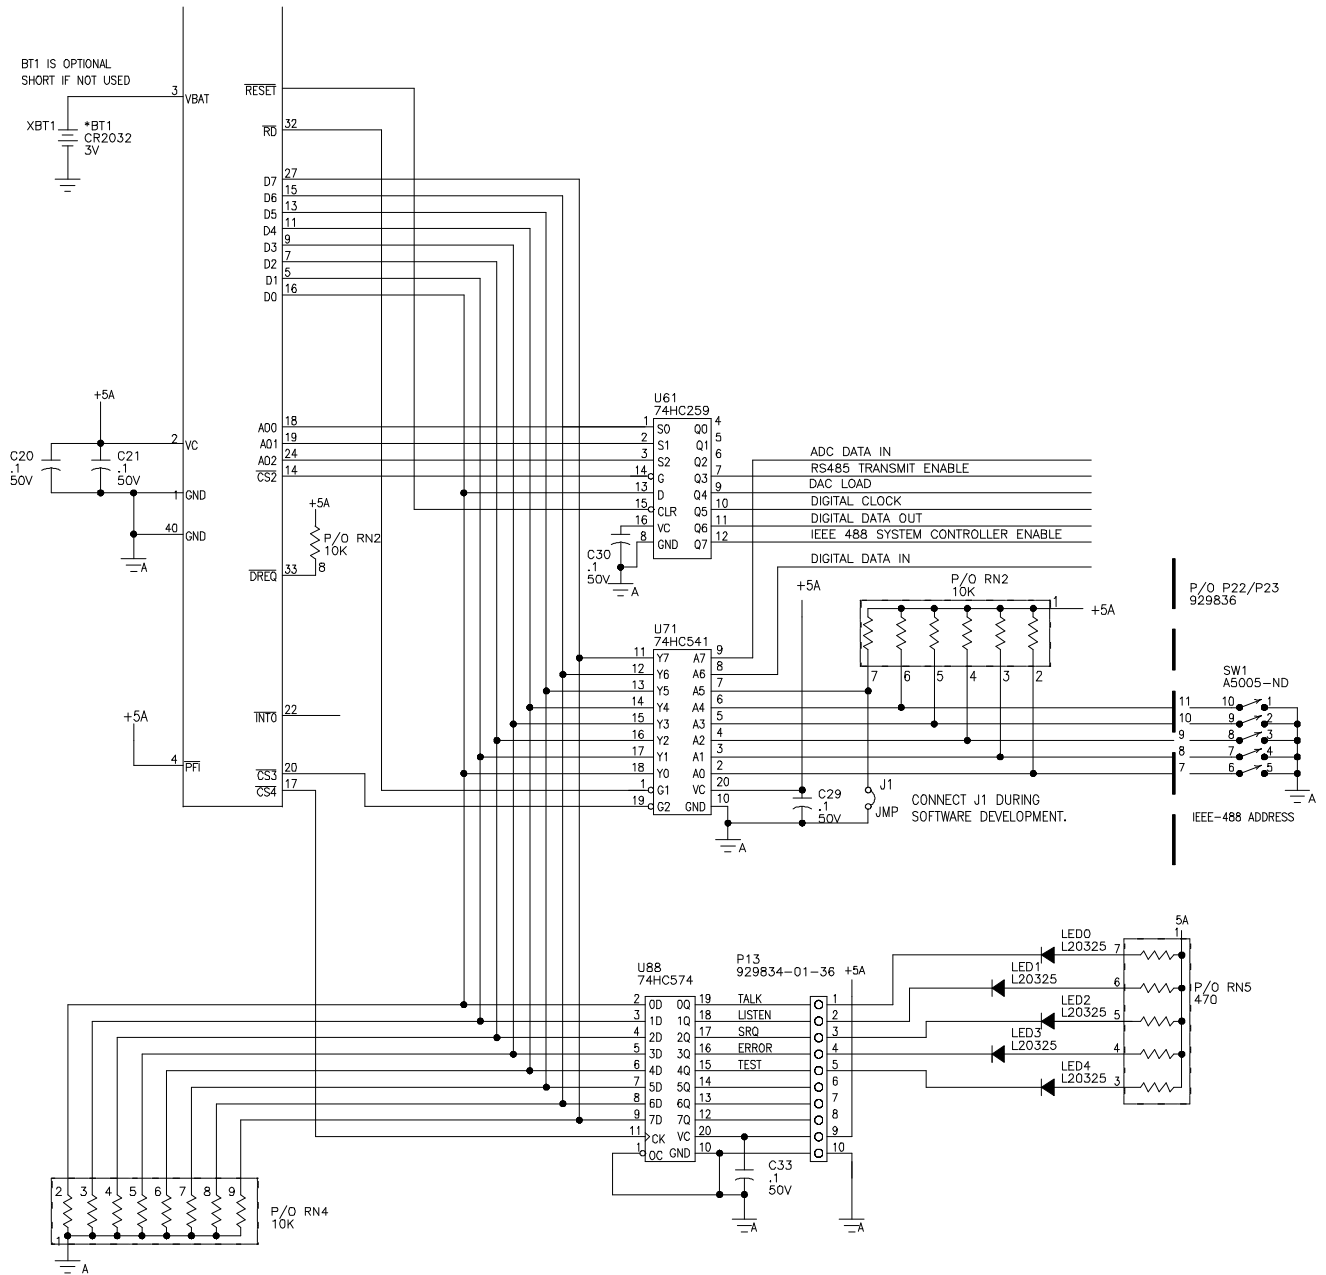

Figure 5, Miscellaneous Control Schematic
The IEEE 488 interface in the SBC488 is managed by an NEC uPD7210 type Application Specific Integrated Circuit (ASIC). The IEEE 488 Integrated Circuit (IC), U81 is connected to the SmartCore's 8 bit data bus (See Figure 5). In addition, U81 is connected to the least significant three bits of the address bus. These address lines are used by the CPU to address the eight read and write registers that control the U81's operation. Also, U81 connects to the SmartCore's /CS1, /IORD, /IOWR and /INT1 lines. Note that the "/" before the signal name means that the signal is active low.
The IEEE 488 address is programmed by DSW1 (See figure 5) and defined by the IEEE standard to be between 0 and 30. The SBC488 interprets an address of 31 to mean that RS-232 control is being used. The data buffer/input port U71 (74HC541) allows the MPU to read the address set on the switch. The MPU then programs U81 at power up for that device address.
These digital signals are manipulated by the MPU via the 8 bit addressable latch, U61 and are isolated by U41 opto-isolator (See Figure 5). The Data Out pin of the ADC is isolated by U44 opto-isolator and is read by the 8 bit input port.
The digital signals, SDA and SCL are manipulated by the MPU via the 8 bit addressable latch, U61 and are isolated by opto-isolator U47 (See Figures 5 and 9). The interrupt and read data are isolated by U48 opto-isolator. The read data is connected to 8 bit input port U71. The interrupt signal connects to /INT0 (U100-22) on the SmartCore.